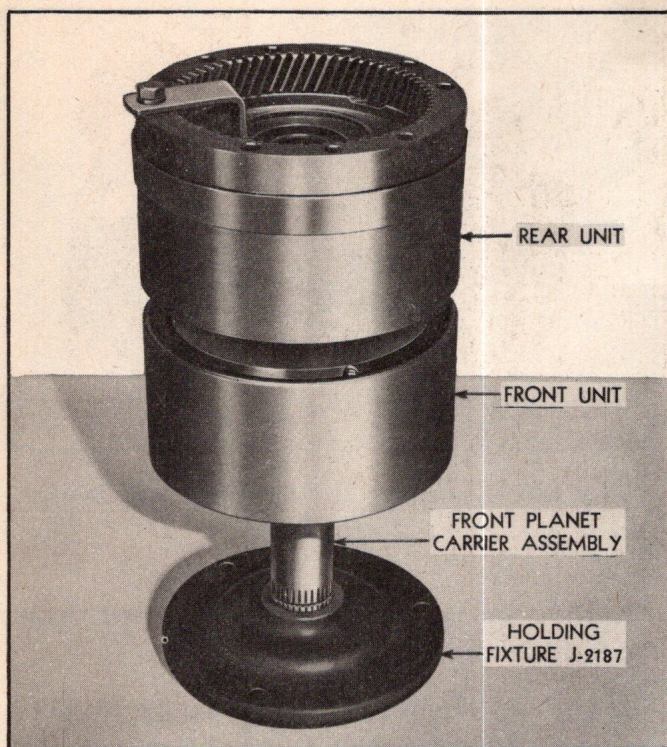

Fig. 132—Front and Rear Units and Holding Fixture
2. Place planet carrier with front and rear planet assemblies into holding fixture J-2187 (Fig. 132).